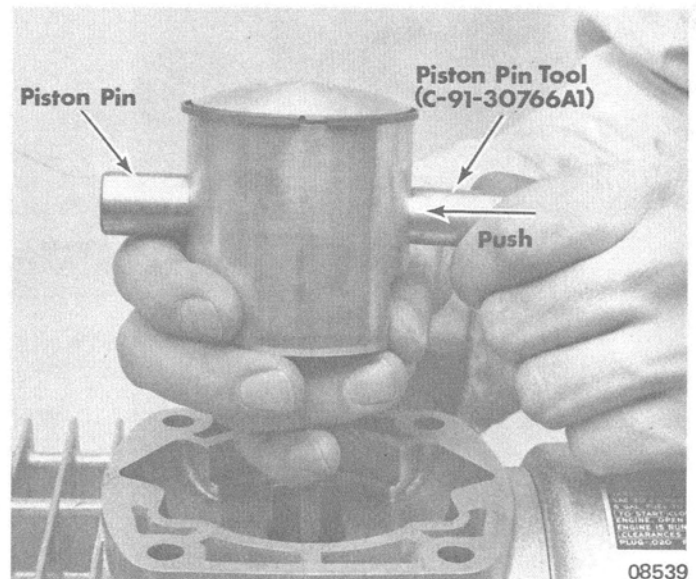

Figure 10. Piston Pin Removal
3. Remove piston pins with Piston Pin Tool (C-91-30766A1). (Figure 10) Remove pistons from connecting rods and reinsert piston pins into respective pistons. Mark each piston to designate to which cylinder it is "fitted".